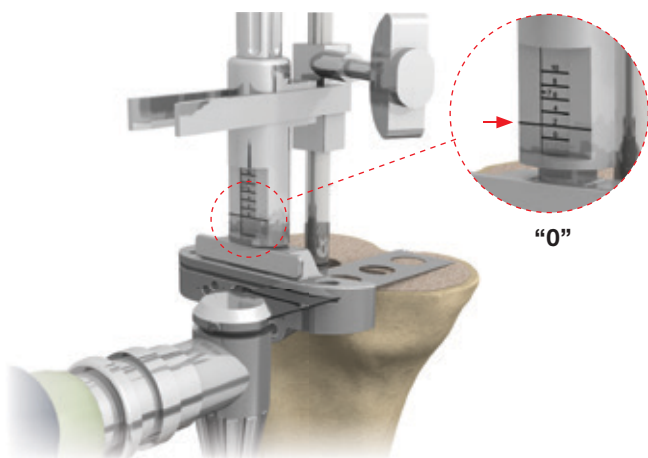

Figure 7
**NOTE.** The CCK tibia resection guide has a 6° of tibial slope (9066.22.120) (Fig. 7). Please be aware of the correct rotation.
Introduce the sickle (9066.12.010) or a free blade with thickness 1.27mm through the cutting guide slot and place it on the highest tibial plateau (Fig. 7) (if there is any difference between the medial and the lateral plateau).